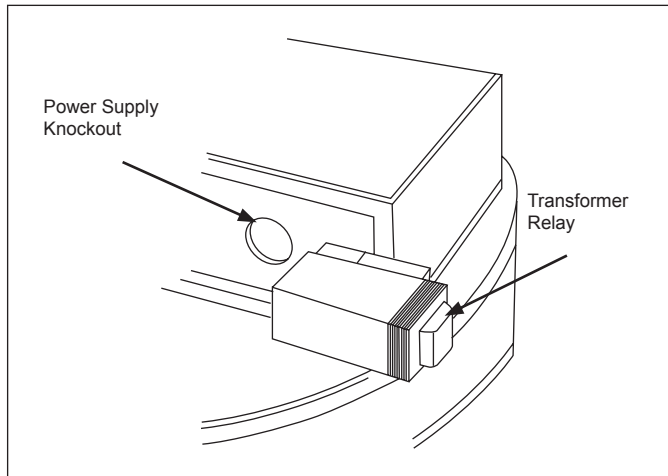

Figure 4
- Wire the transformer relay per Figures 4, 5, or 6. Refer to wiring diagram on the inside of the power junction box cover